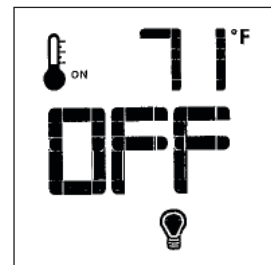

Fig. 15.15. Lamp Control.
- With the Remote ON, press the Mode Key to index to the Lamp icon. Figs. 15.15.